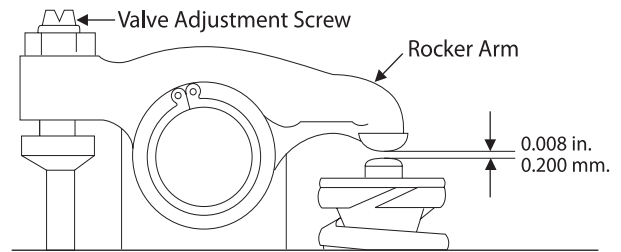

Figure 5: Valve Adjustment
4. Loosen the lock nut and adjust the clearance between the rocker arm and valve guide of both the intake and exhaust valves with the adjustment screw (Figure 5). Clearance on both intake and exhaust valves should be 0.008 in. (0.2 mm).